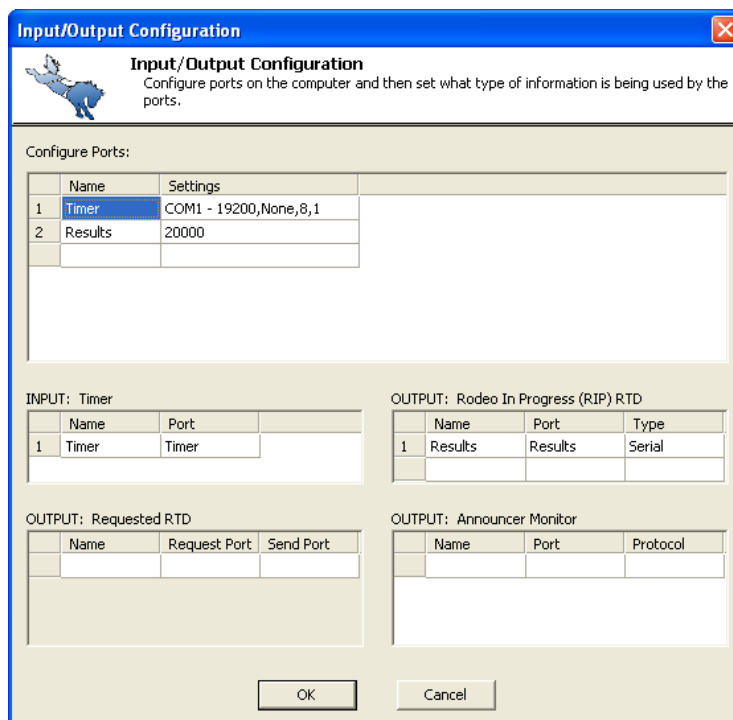
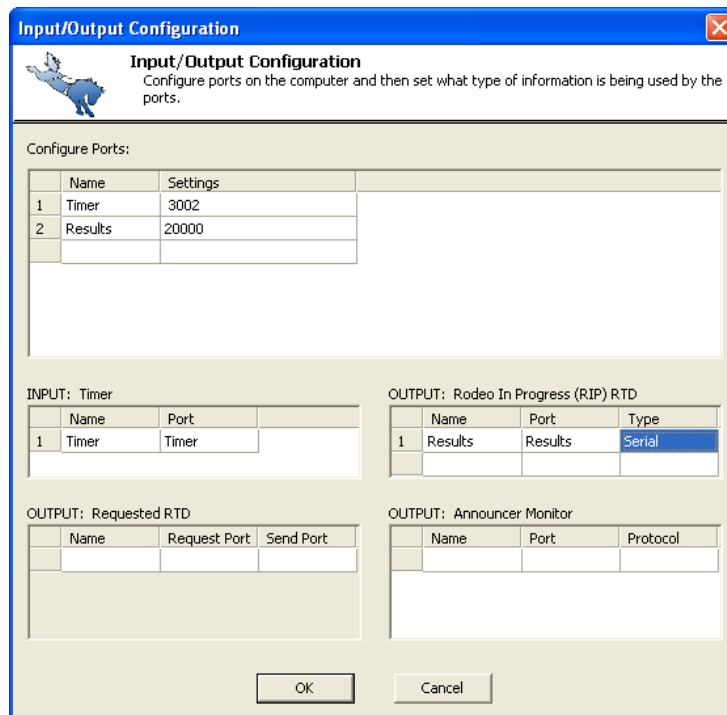

Figure 18: Input/Output Settings
Figure 19: Input/Output Settings (Using DCS)
8. The settings in the *Input/Output Configuration* window should look like *Figure 18* (this window will look like *Figure 19* when using DCS):